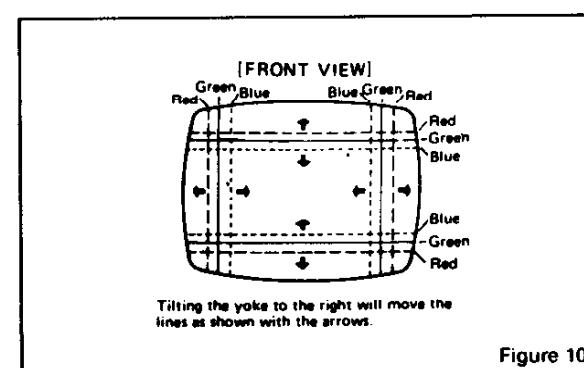

Figure 10
PRECISE ADJUSTMENT OF DYNAMIC CONVERGENCE (See Fig. 10 and 11)
2. Insert the temporary wedge and fix Deflection Yoke so as to obtain the best circumference convergence (See Fig. 10 and 11).
- 1) Tilting the angle of the yoke up and down adjusts the crossover of both vertical and horizontal red and blue lines. See Fig. 10 (a) and (b).